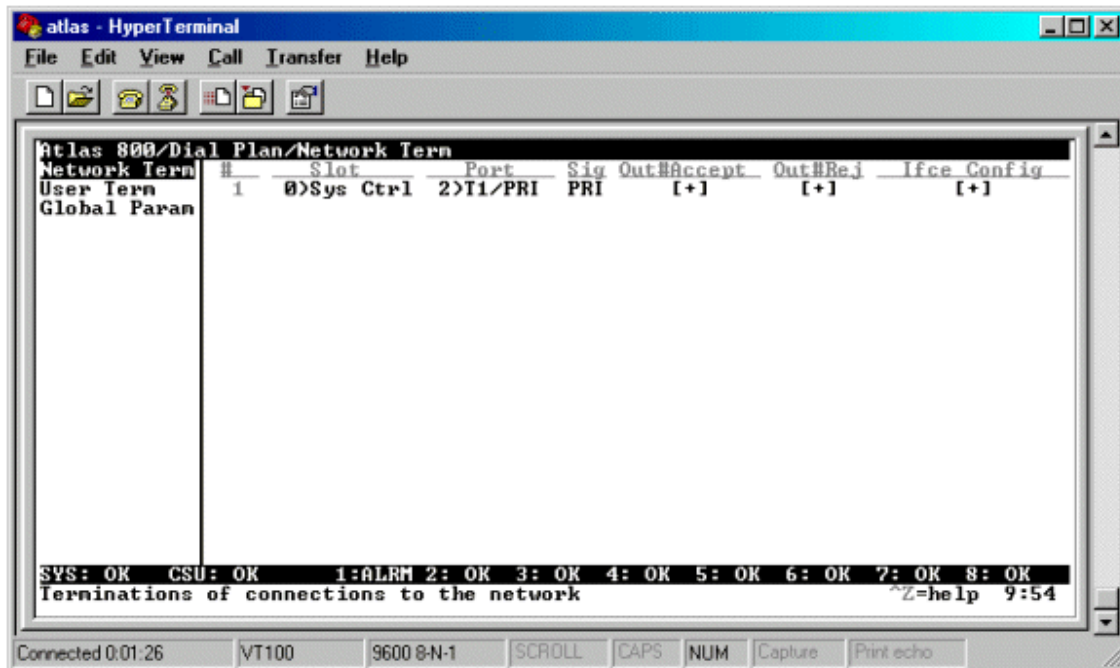

Figure 3
1. From the main menu (press 'H' to return to the main menu from anywhere) go to **Dial Plan, Network Term** and enter on the **Slot** and **Port** options to select the appropriate module and port. This will be the primary T1 coming from the telephone company. (For more information on when to use **Network Term** versus **User Term**, see the ATLAS FAQs.) Figure 3 shows the Dial Plan entry for a PRI connected to slot 0, port 1.